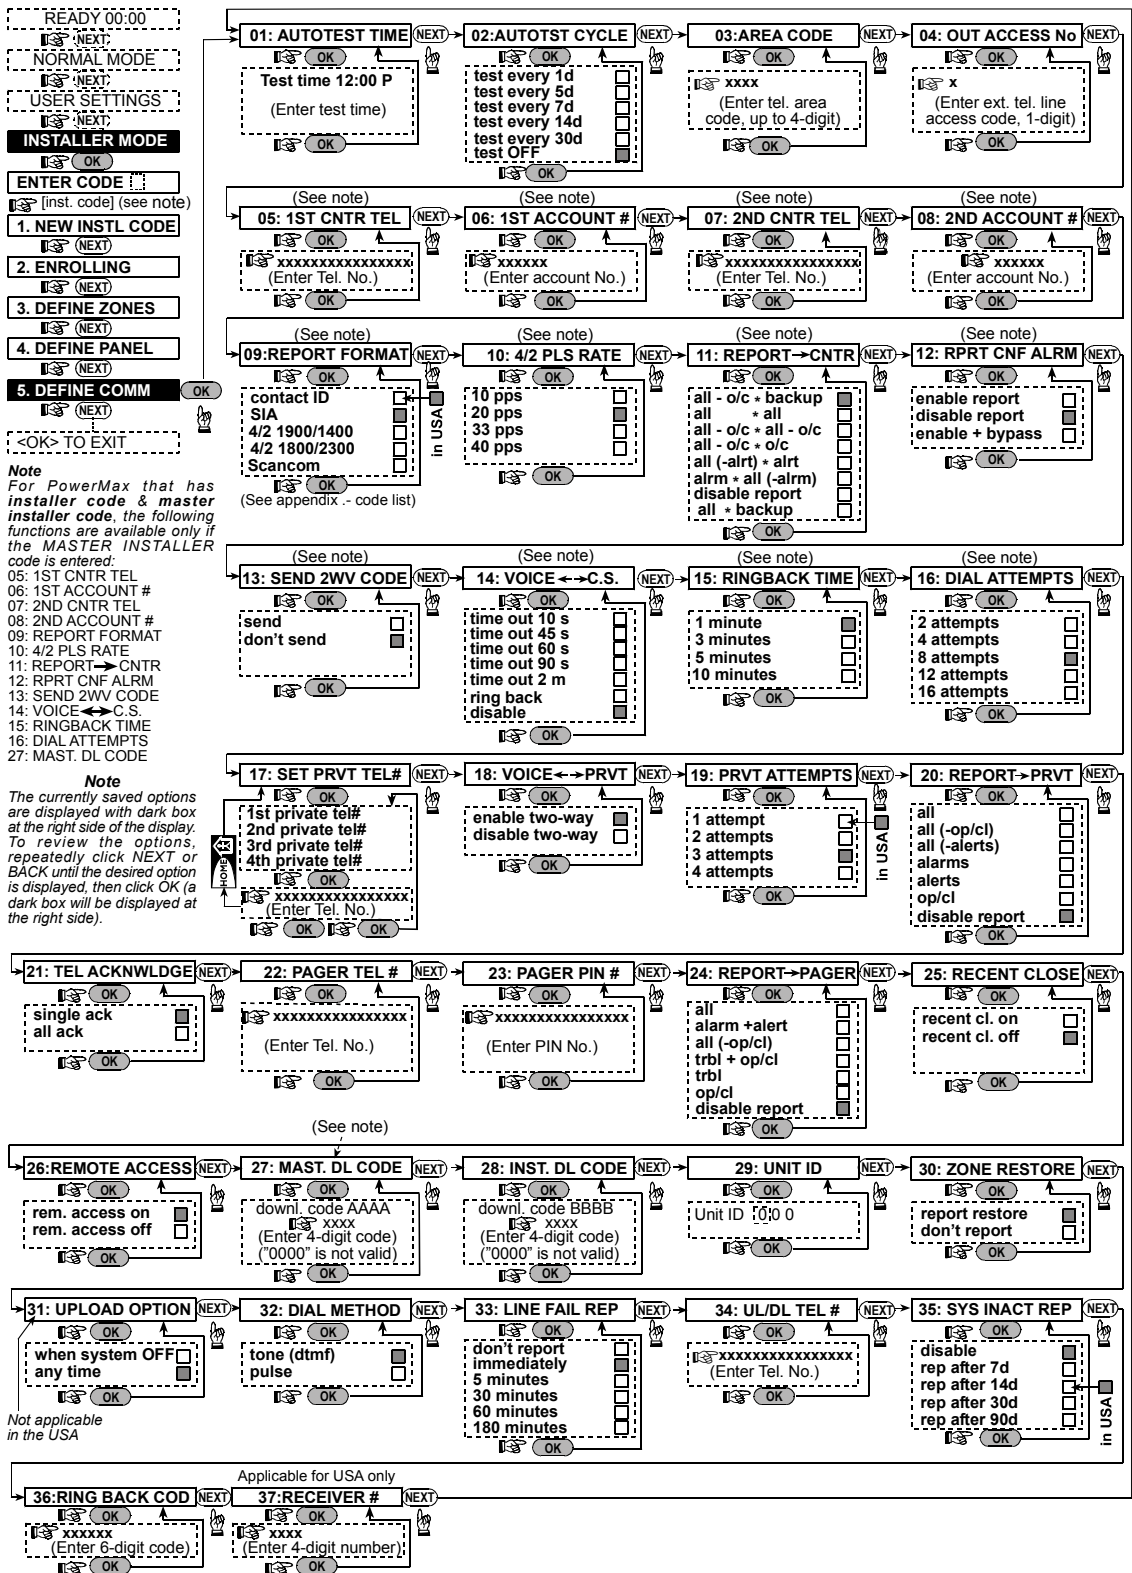

Figure 4.5 - DEFINE COMM Flow Chart
4.5.1 Autotest Time (fig. 4.5, location 01)
4.5.2 Autotest Cycle (fig. 4.5, location 02)
4.5.3 Area Code (fig. 4.5, location 03)
4.5.4 Out Access No (fig. 4.5, location 04)
4.5.5 First Central Station Tel. (fig. 4.5, loc. 05)
Here you program telephone number of the 1st central station (including area code, 16 digit max) to which the system will report the event groups defined in memory location 11 (see note in fig. 4.5).
4.5.6 First Account No. (fig. 4.5, location 06)
Here you enter number that will identify your specific alarm control system to the first central station. The number consists of 4 or 6 hexadecimal digits (see note in fig. 4.5).
4.5.7 2ND Central Station Tel. (fig. 4.5, loc. 07)
Here you program telephone number of the 2nd central station (including area code, 16 digit max) to which the system will report the event groups defined in memory location 11 (see note in fig. 4.5).
4.5.8 Second Account No. (fig. 4.5, loc. 08)
Here you enter number that will identify your system to the 2nd central station. The account number consists of 4 or 6 hexadecimal digits (see note in fig. 4.5).
4.5.9 Report Format (fig. 4.5, location 09)
Here you select the reporting format used by the control panel to report events to central stations (see note in figure 4.5).
4.5.10 4/2 Pulse Rate (fig. 4.5, location 10)
Here you select the pulse rate at which data will be sent to central stations if any one of the 4/2 formats has been selected in Location 09 REPORT FORMAT (see note in fig. 4.5). The options are: **10, 20, 33** and **40** pps.
(fig. 4.5, location 11) (see note in fig. 4.5).
4.5.12 Report CNF Alarm (fig. 4.5, location 12)
Here you determine whether the system will report whenever 2 or more events (**confirmed alarm**) occur during a specific period (see par. 4.4.32 and note in figure 4.5).
4.5.13 Send 2WV Code (fig. 4.5, location 13)
Here you determine whether the system will send two-way voice code to the central station (to turn the central station from data communication to voice communication state) by using pre-selected SIA or Contact-ID communication format only (see note in fig. 4.5). Options: **send** and **don't send**.
(fig. 4.5, loc. 14). (See note in fig. 4.5).
4.5.15 Ring Back Time (fig. 4.5, location 15)
The options are: **1, 3, 5 or 10 min.** (see note in fig. 4.5).
4.5.16 Dialing Attempts (fig. 4.5, location 16)
Here you determine how many times the communicator will dial the central station's number. (see note in fig. 4.5).
4.5.17 Set Private Tel. No. (fig. 4.5, location 17)
4.5.18 Two-Way Voice - Private Phones (fig. 4.5, location 18)
4.5.19 Private Tel. Dialing Attempts (fig. 4.5, location 19)
4.5.20 Reporting to Private Telephones (fig. 4.5, location 20)